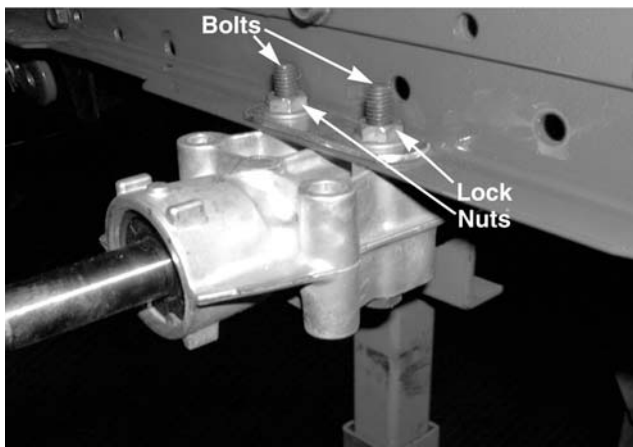

Figure 9-60
22. Remove all four hex bolts and lock nuts securing the hydrostatic transmission to the frame rails using a 1/2" socket and a 1/2" wrench. See Figure 9-60